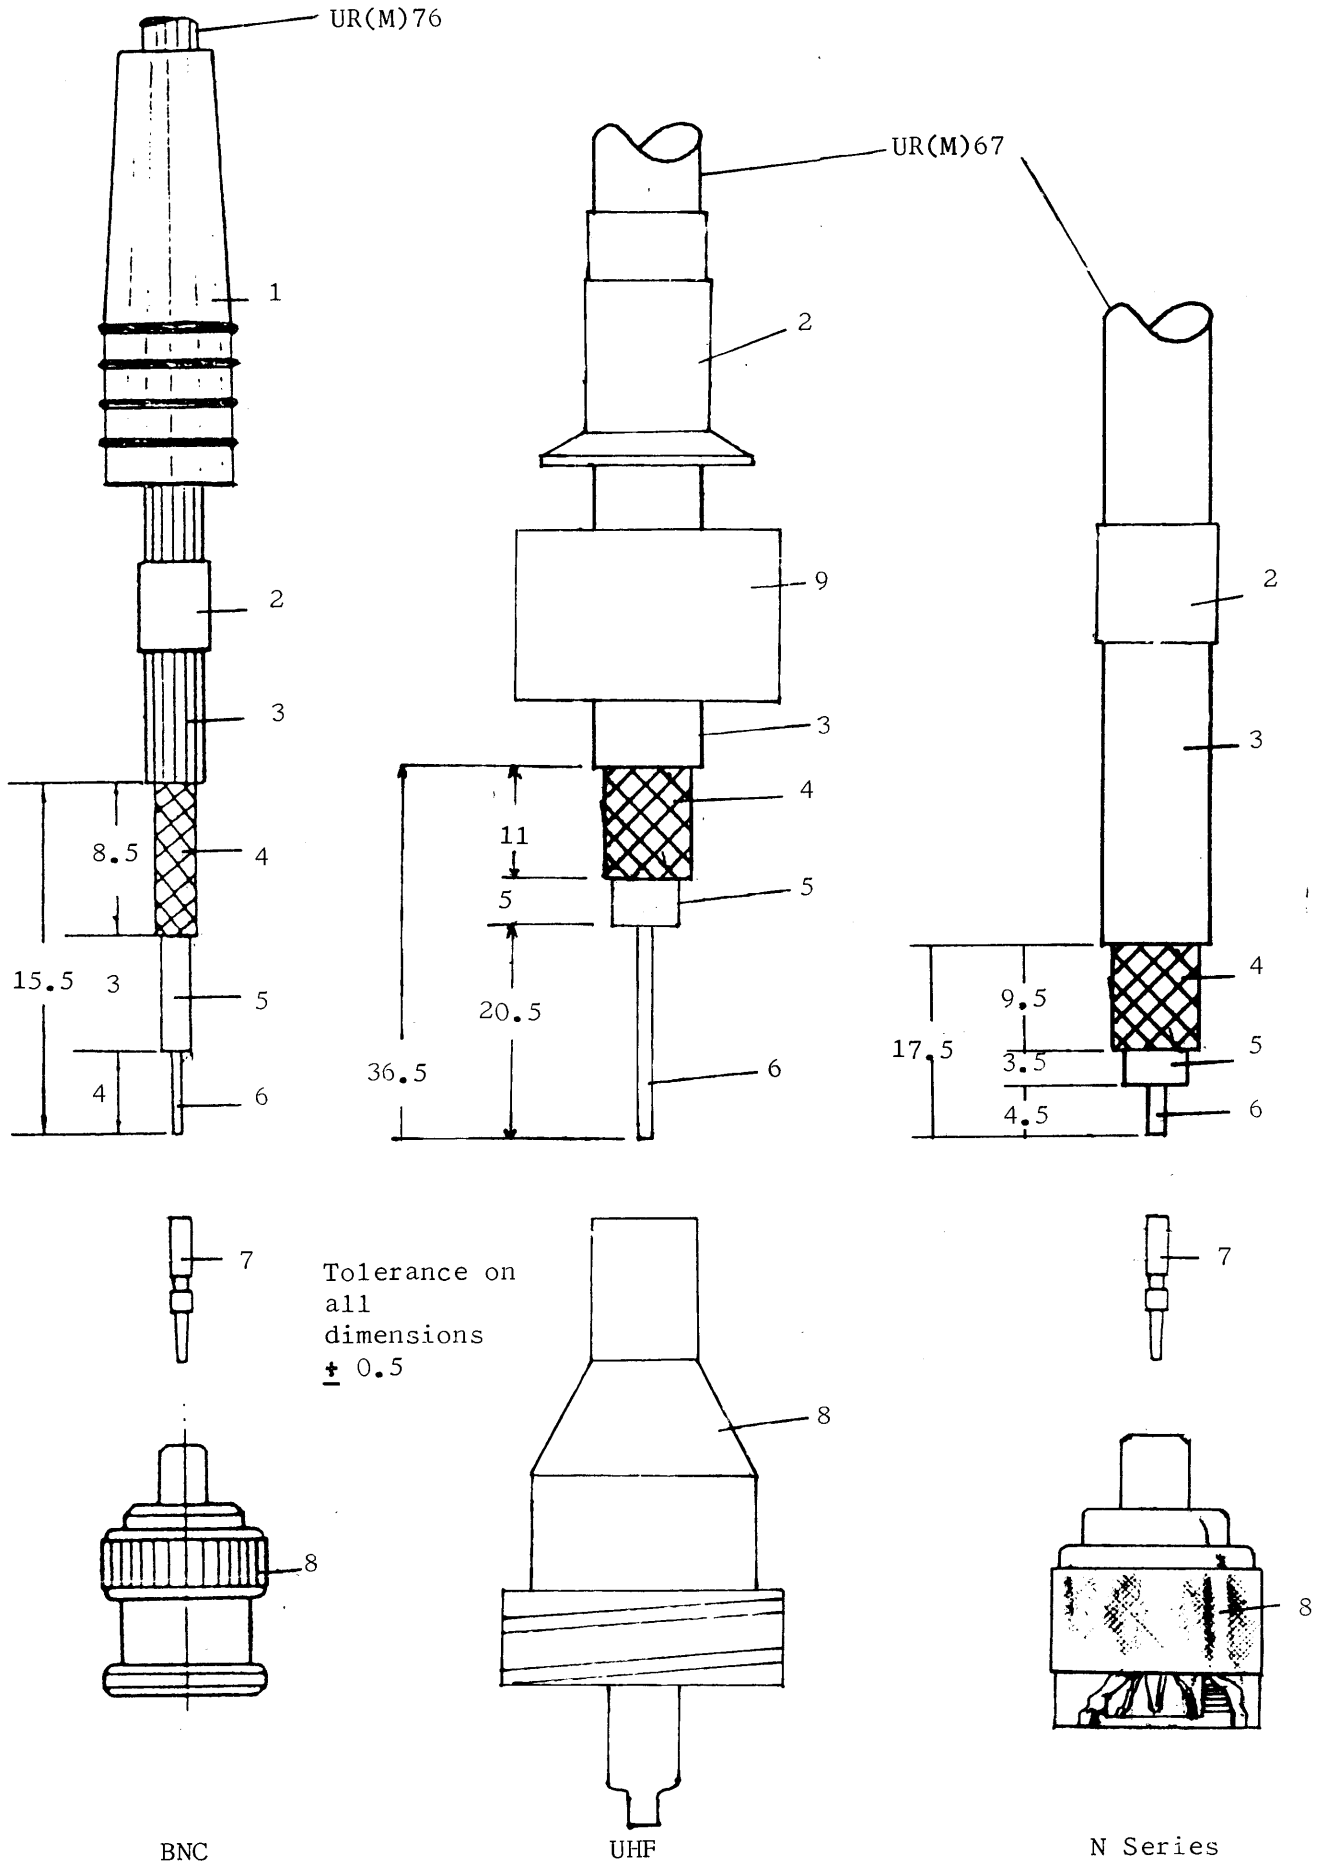

Figure 1 Cable Preparation
- Figure 1 Cable Preparation
- 5 Strip the outer sheath (1.3) to the dimension given in Figure 1.
- 6 Trim back the braid (1.4) to the dimension given in Figure 1.
- 7 Strip the dielectric (1.5) to the dimension given in Figure 1.
Items List for Figure 1